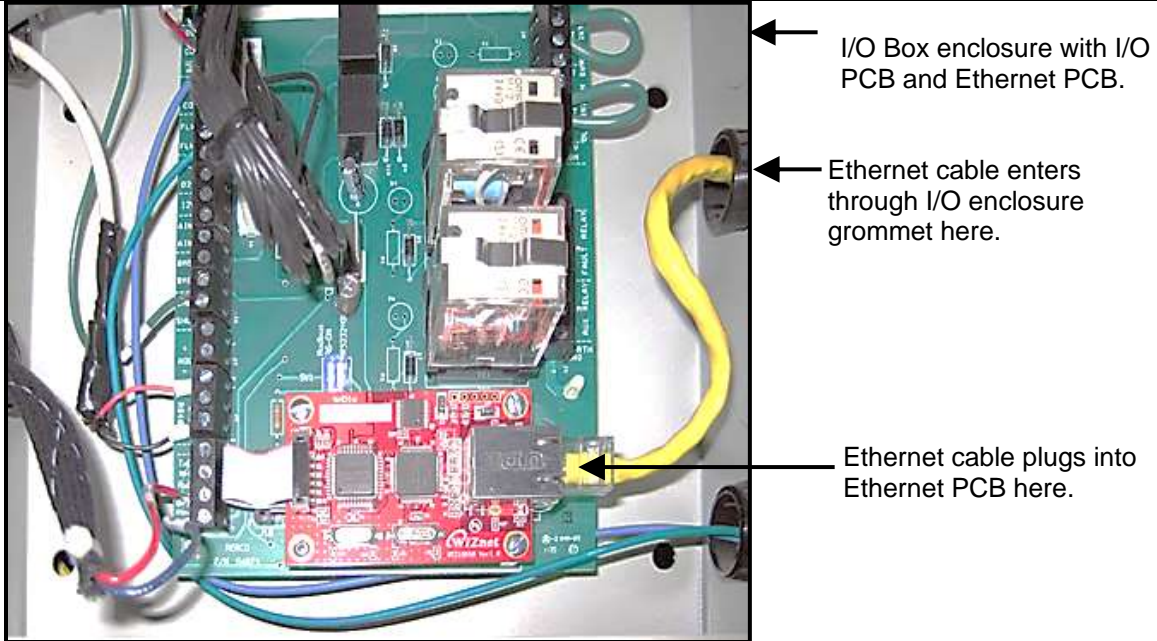

Figure 7-1: I/O Box Interior Showing Ethernet Cable & OnAER PCB
4. Connect the Ethernet cable to the Ethernet jack in the I/O box (tab down). See Figure 7-1.